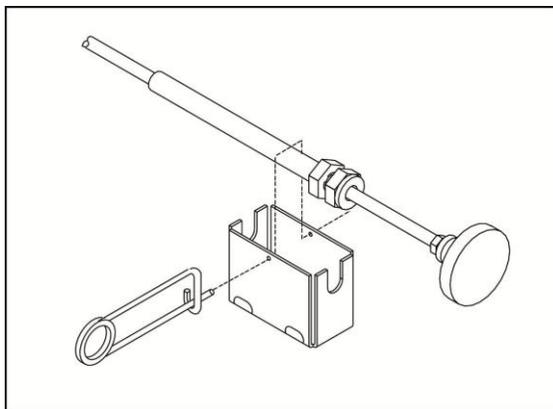

Figure 1-7
2. Slide knob end of push/pull cable into the u-slot of cable mount between nuts. Figure 1-7.
3. Secure with safety clip. Figure 1-7.